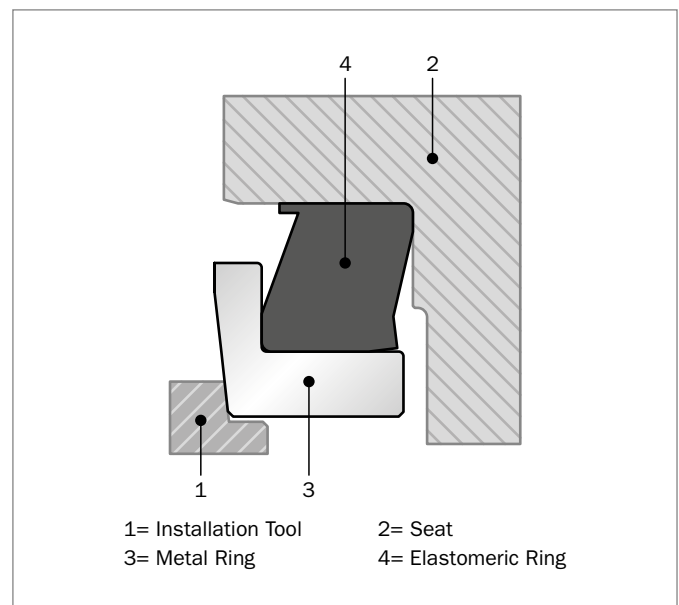

Figure 184: Installation Tool for DF Type
- Assemble each half on the seal into the house using an installation tool Figure 184. Use an uniform load over the tool to push the half group in to the housing until elastomeric ring reaches the house bottom. The installation tool has to touch only inner part of metal ring close to Inner Diameter and far from related lapped surfaces.